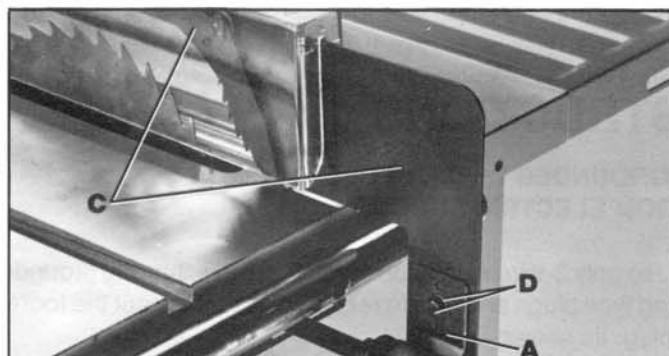
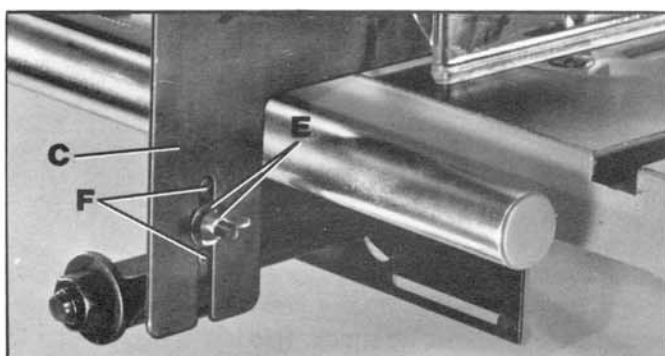

Fig. 18
Fig. 19
3. Assemble the blade guard and splitter assembly (C) to the splitter bracket (A) using the hex head screw, star washer and flat washer (D) Fig. 18, and wing nut, star washer and flat washer (E) Fig. 19.
4. **NOTE:** Make certain the two protrusions, "pins" (F) Fig. 19, are engaged with the channel of the splitter assembly (C) before tightening wing nut (E).